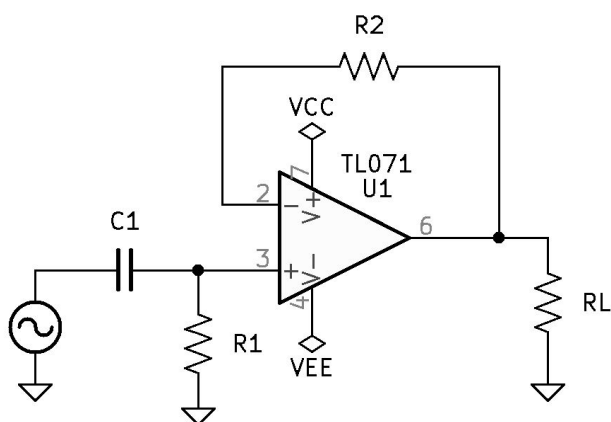

Figure 8.4: High-Pass First Order Active Filtering Circuit.
1. See Figure 8.4 *High-Pass First-Order Active Filtering Circuit* on page 70.